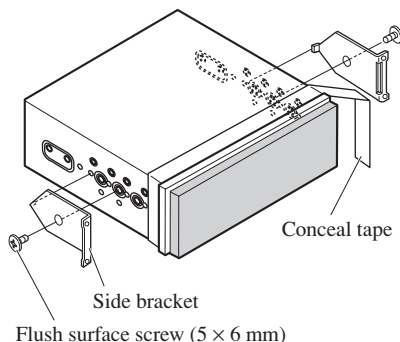

Fig. 16
1. **Decide the position of the side brackets. (Fig. 16)**